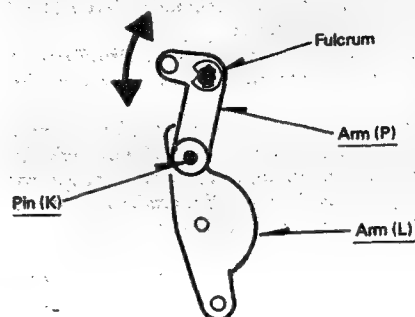

Fig. 18
- Pin (K) of Arm (L), which engages Arm (P), acts to operate the head selector switch, thus activating the Auto Reverse mechanism in the manner described above (Fig. 18).